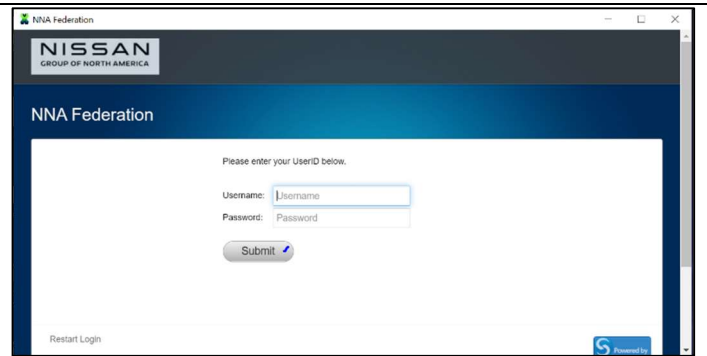

Figure 22
22. Enter login information and select **Submit**. (Figure 22)